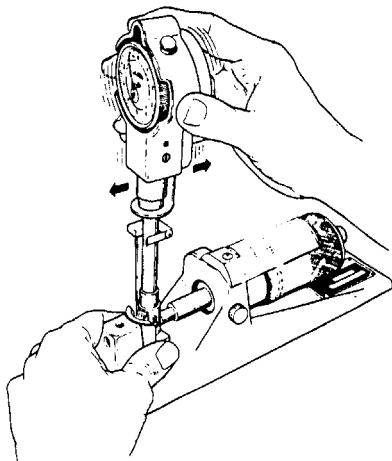

FIGURE 12
11. While holding the Nest stationary, rock the Gage in the vertical plane (see Figure 12) until the Indicator Hand registers the minimum reading. Then allow the Support Post Spring Finger to hold the Gage in that position. Recheck the minimum reading in the horizontal plane.